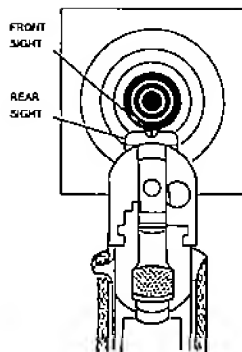

FIGURE 5 - AIMING
3. Grasp pistol by stock and, with index finger resting along the outside of trigger guard, take aim. Aim by aligning target with front and rear sights. (See Figure 5). After identifying your target and seeing that it is clear to shoot, focus on the front sight. Be sure you have a safe backstop. **THINK! What you will HIT if you MISS the target?**